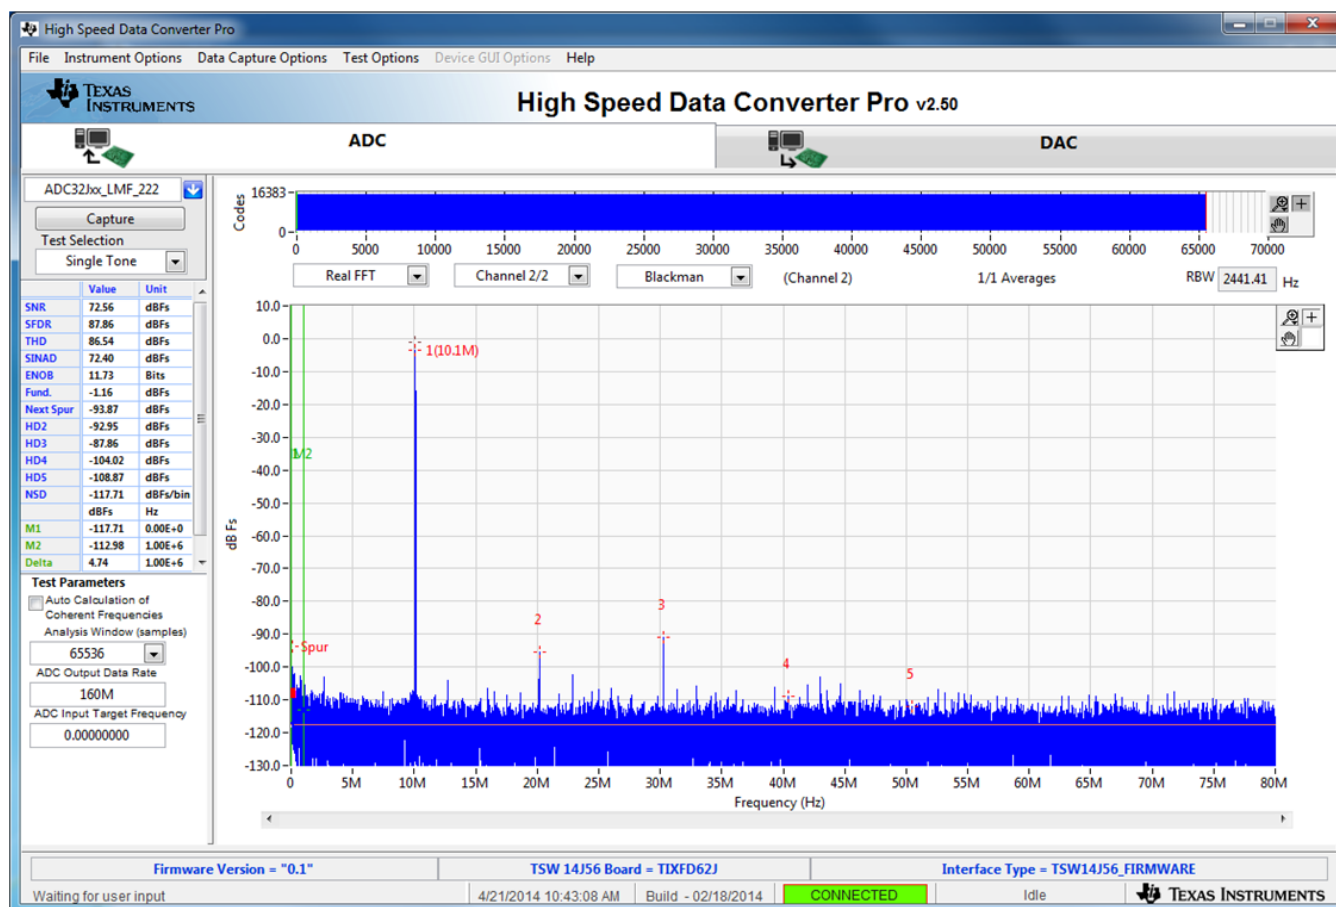

Figure 20. ADC32Jxx Operating in 14-Bit Mode at 160 MSPS With a 10-MHz Input Signal
5. Select the number of sample points (and resulting number of FFT bins) to be used. The example shown in Figure 20 has 65536 samples.